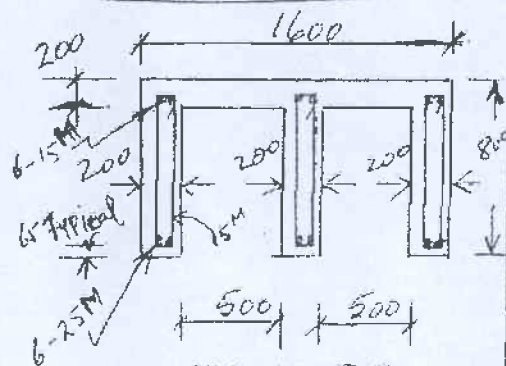

FIGURE B2
- B2. A triple-T reinforced concrete cross-section for a building floor system is shown in Figure B2. Calculate its moment (M_R) and the shear (V_R) resistances. Use $f'_c = 35$ MPa and $f_y = 400$ MPa.